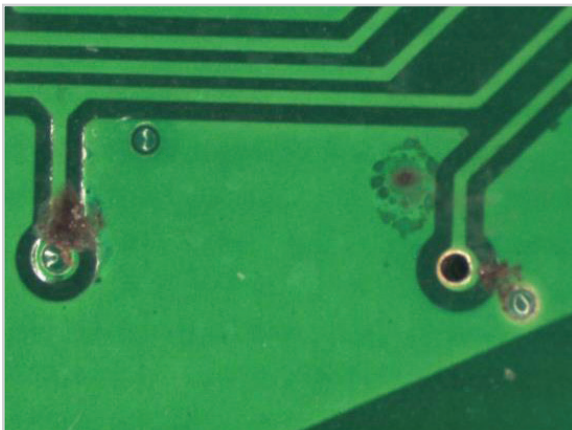

Figure 3 Fab Residues in Vias and Under Mask
- 1 Incoming board and component cleanliness** – contamination consisting of the plating bath and rinse water residues such as HASL flux on the bare board (i.e. ammine hydrochloride in a polyglycol (PEG) carrier) that is rinsed in tap water. Silver, OSP, ENIG and immersion tin are all final finishes that also can leave residues on or in the vias (Figure 3).